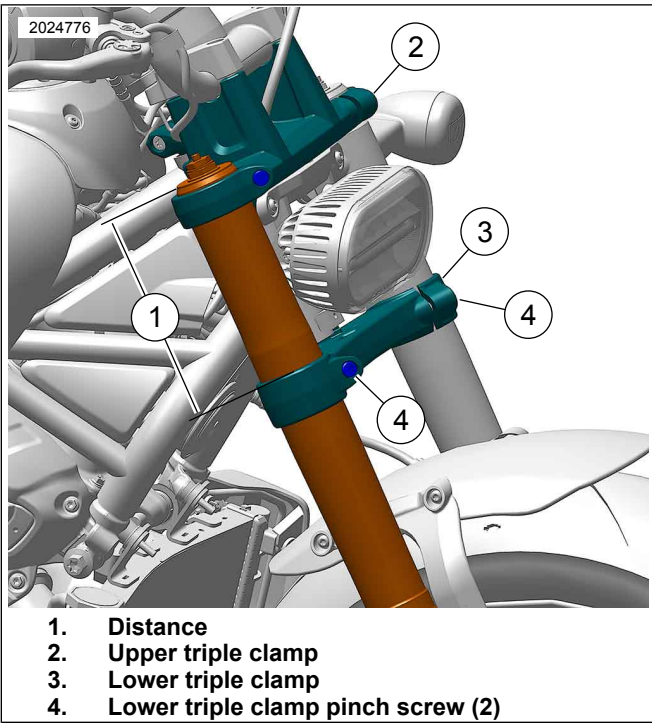

Figure 10. Front Fork Mount (typical)
1. See Figure 10. Remove Original Equipment (OE) upper triple clamp (2). See service manual.
2. With the OE upper triple clamp (2) removed, set fork height. Refer to Table 3.
- a. See Figure 10. Measure distance (1) from top of fork tube to top of lower triple clamp (3).
- c. Loosen lower triple clamp (3) pinch screw (4).
- d. Adjust as needed. Tighten screw (4).